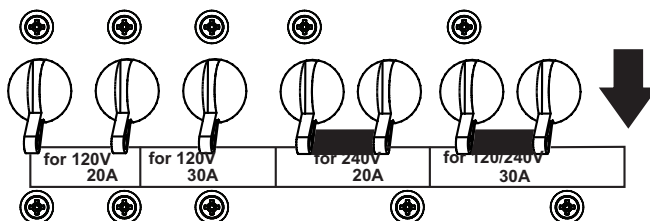

Figure 15. GFCI/AUX. Circuit Breakers (OFF)
3. **NEVER** start the engine with the **GFCI** or **AUX.** circuit breakers in the **ON** position. Always place these circuit breakers (Figure 15) in the **OFF** position before starting the engine.